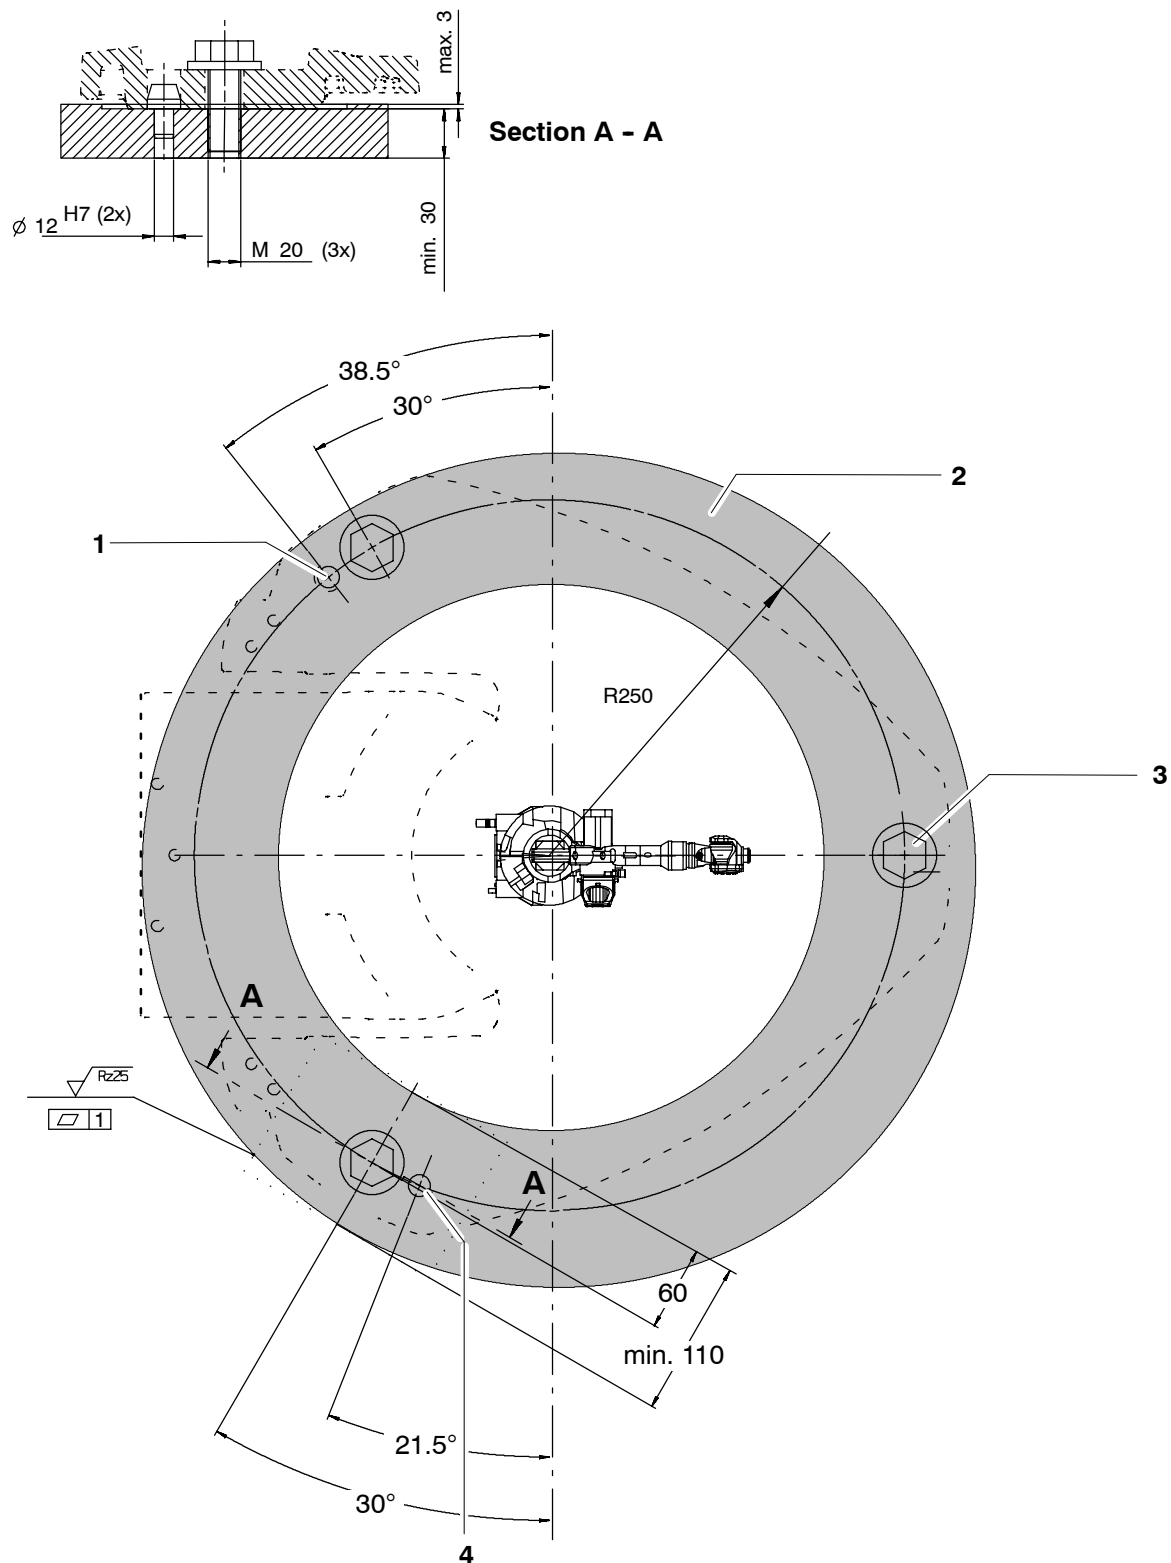

Fig. 60 Robot installation, variant 2
- (1) Prepare mounting surfaces (Fig. 60/2) on steel structure in accordance with Fig. 60.
- (2) Prepare three M20 tapped holes for the fastening screws (3) and two holes for the locating pins (1, 4).
- (3) Insert locating pins (1, 4).